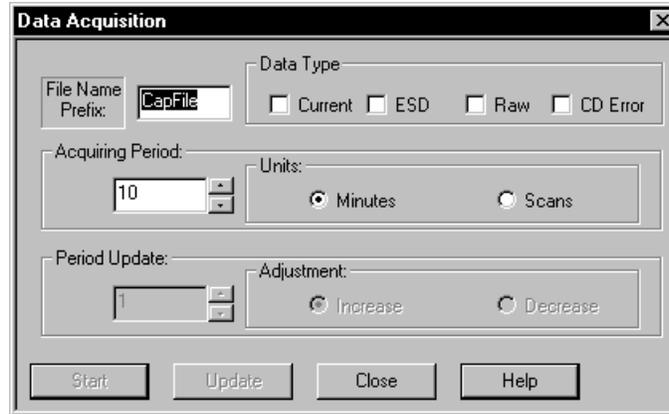

Figure 7-6. Data Acquisition.
**Acquire Data**—This icon brings up the Data Acquisition window (figure 7-6), which allows you to name the data file in which the data is to be saved, select the type of data to be collected, and to set the acquiring period in either number of scans or minutes.